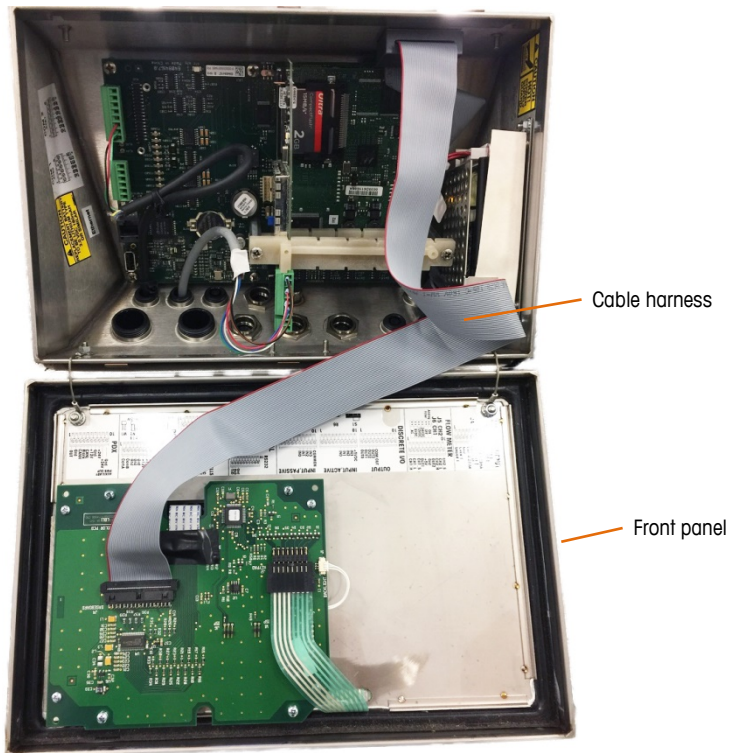

Figure 2-11: Front Panel Reversed, Longer Cable Harness Installed
8. Connect the replacement cable harness (64087303) as shown in Figure 2-11.